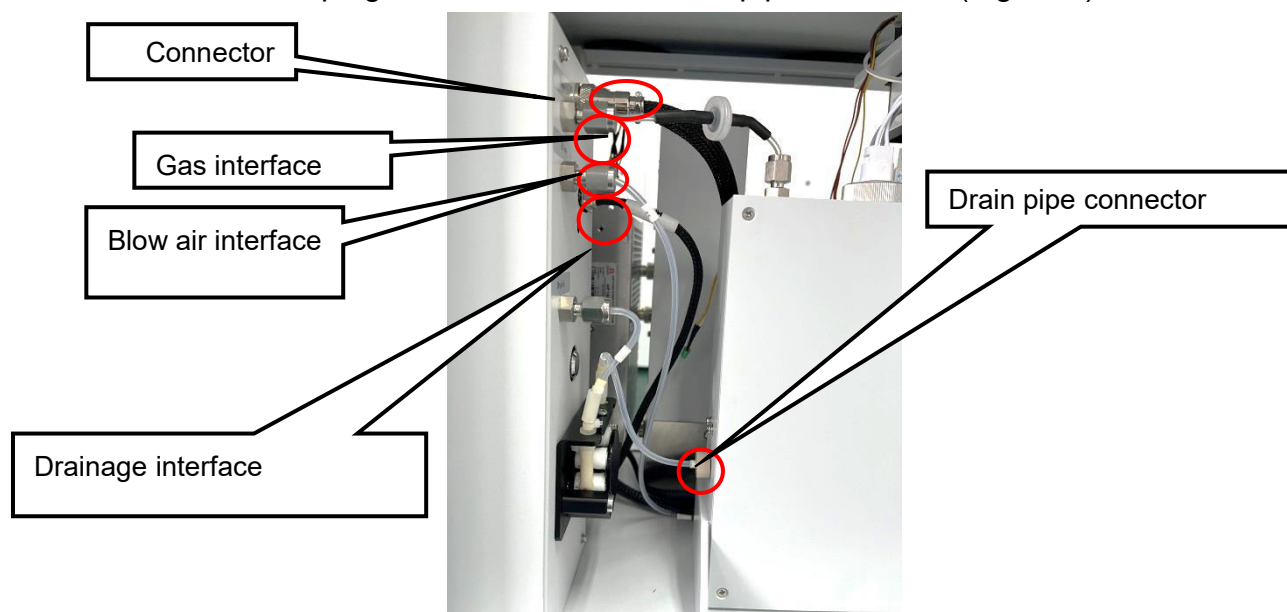

Fig.6.17
1) Open the left door panel of the instrument, unscrew the two stainless steel nuts and wire plugs, and unscrew the drain pipe connector (Fig.6.17).